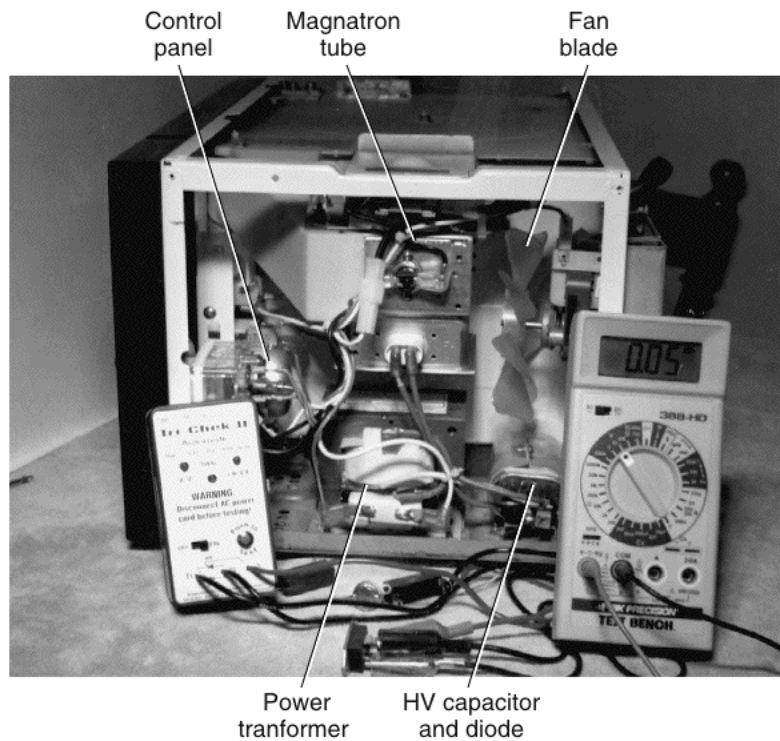

FIGURE 2-26 High-voltage is present when the power transformer, HV diode and capacitor, and magnetron are operating.
The power transformer, HV capacitor, HV diode, and magnetron tube contain high voltage (HV) when the oven is operating (Fig. 2-26). Do not touch any component in the oven while it is operating. When the oven shuts off, discharge the HV capacitor before attempting to perform any type of service. Be very careful when taking high voltages in the HV section. Connect a Magnameter to the HV section for high-voltage and current measurements.